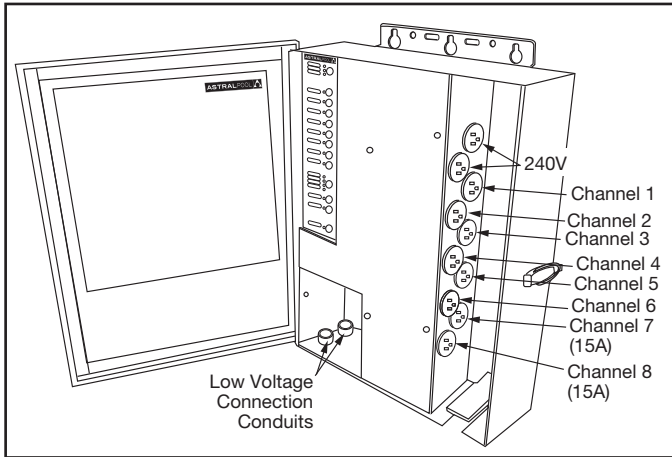

Figure 6. Electrical Box Plug Connections and Low Voltage Conduits
1. Connect the touchscreen to the electrical control box with a 6-wire RJ12 straight through cable. See the low voltage connection conduits in Figure 6.
When connecting appliances to the outlets of the controller, attempt where possible to start at Channel 1 and use sequential channels from there. This will ensure the easiest operation of the controller. See Figure 6.
A standard wired connection comes included with the Viron Connect 10. See Figure 6 - Wired Connection.